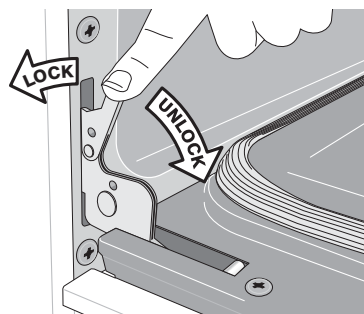

Figure 29: Hinge lock/unlock positions
2. Pull the door hinge locks on both left and right door hinges down from the oven frame completely towards the oven door (Figure 29). A tool such as a small flat-blade screwdriver may be required.
4. Push the door hinge locks up towards and into the oven frame on both left and right oven door hinges (Figure 29) to the locked position; then, close the oven door.